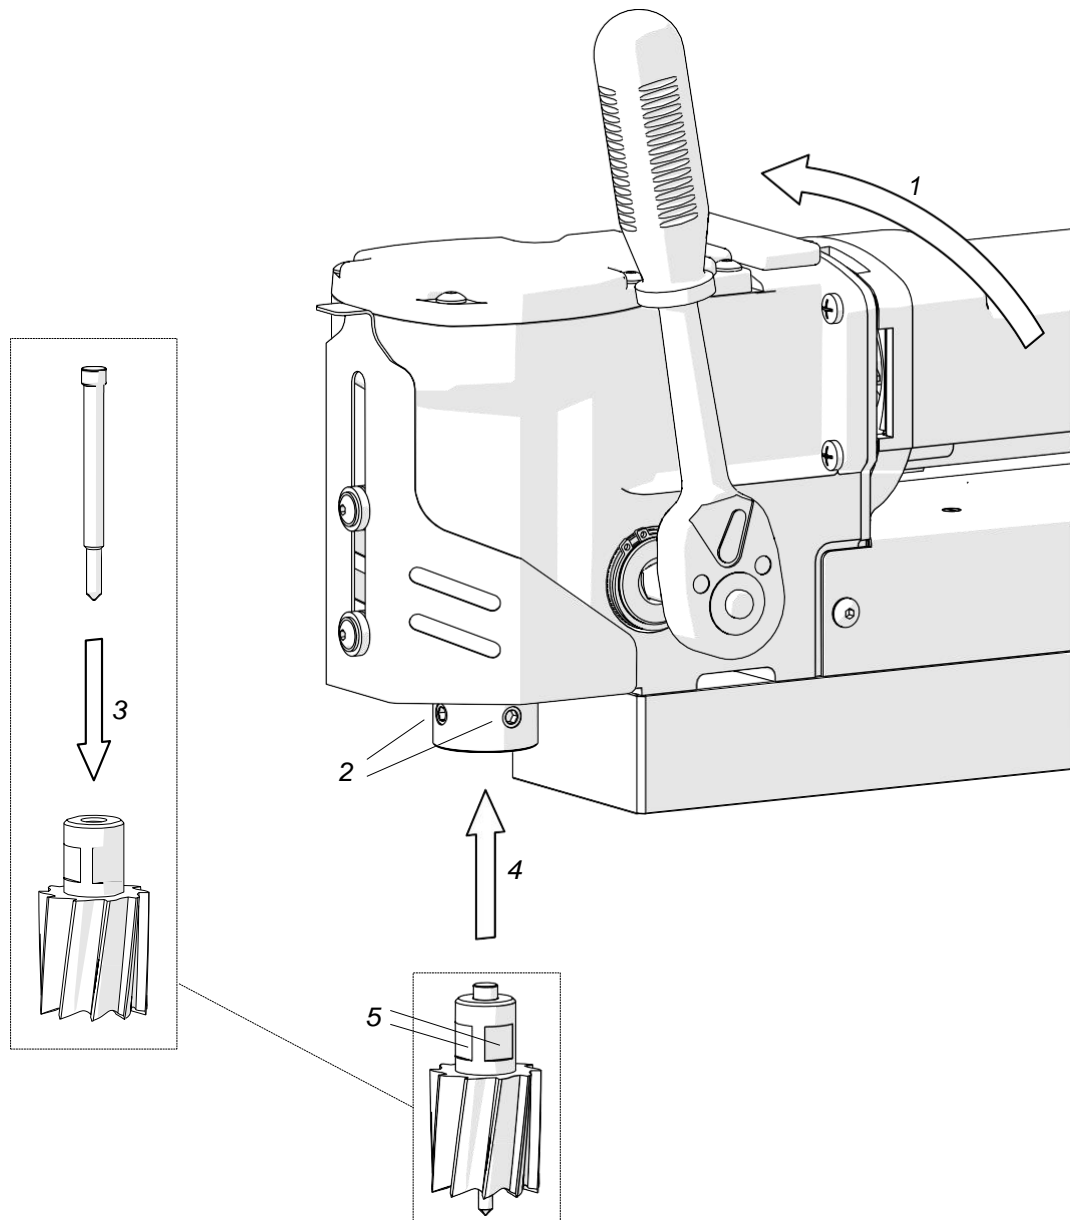

Fig. 2. Installing the annular cutter
Unplug the machine from the power source, raise the safety guard, and then rotate the handle to the left (1, Fig. 2) to access the set screws 2. Next, wear protective gloves, insert the supplied pilot pin into the annular cutter (3), and then use a clean and dry cloth to wipe the arbor and cutter. Next, place the cutter into the arbor (4) in such a way to align the flats 5 with the set screws 2, and then use the 4 mm hex wrench to tighten both set screws.